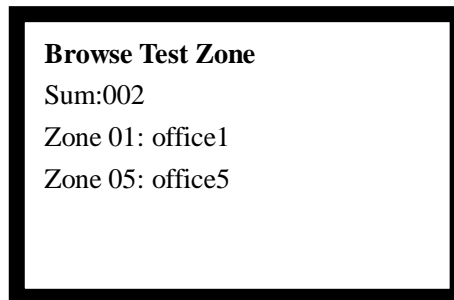

Fig. 6-7
- 2 (Group) (012)(020) // 2 groups are defined. There are 12 addressable devices on Loop 1, and 20 on Loop 2.
- ✧ Entering number 4 to choose “4. In Test Mode Zones” will enter the screen for browsing zones in test mode, as shown in Fig. 6-7.